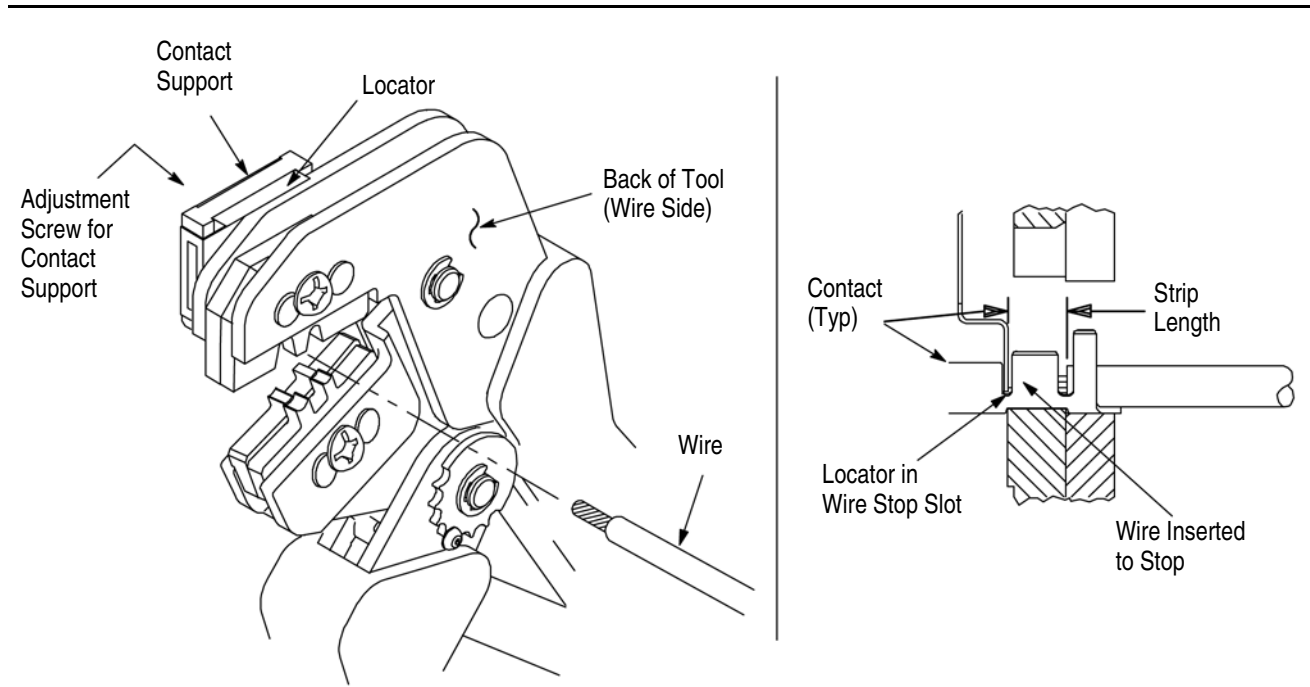

Figure 3
4. CONTACT SUPPORT ADJUSTMENT (Figure 3)
Refer to the table in Figure 1 and select wire of the specified size and insulation diameter. Strip the wire to the length indicated in Figure 1, taking care not to nick or cut wire strands. Select an applicable contact and identify the appropriate crimp section according to the wire size markings on the tool. Refer to Figure 3 and proceed as follows:
3. Position the contact so that the mating end of the contact is on the locator side of the tool, and so that the open "U" of the wire and insulation barrels face the top of the tool. Place the contact up into the nest so that the movable locator drops into the slot in the contact. Refer to Figure 3. Butt the front end of the wire barrel against the movable locator.
5. Insert stripped wire into contact insulation and wire barrels until it is butted against the wire stop, as shown in Figure 3.
NOTE  *The crimped contact may stick in the crimping area, but the contact can be easily removed by pushing downward on the top of the locator (see Figure 3).*